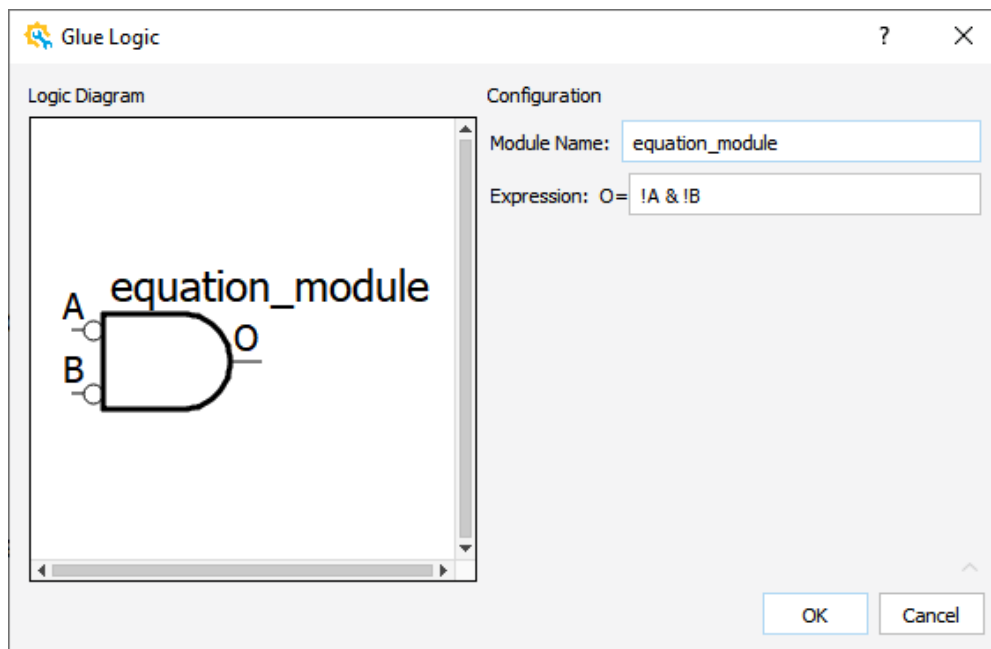

Figure 2.53. Glue Logic Wizard for Equation Module
1. From the IP Catalog, select the **equation** module. Double-click the equation module, or drag and drop the equation module to the Schematic view. A Glue Logic wizard (Figure 2.53) pops up.